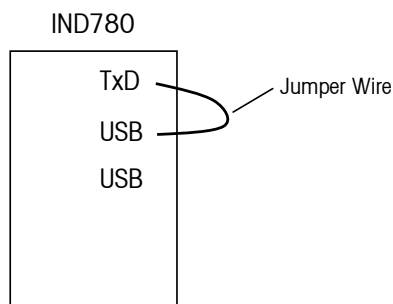

Figure 3-25: Jumper Wire Placed Between the Transmit and Receive Terminals
- If a jumper wire is placed between the transmit and the receive terminals (Figure 3-25) on the port being tested, the same data string that is transmitted displays as the receiving field.